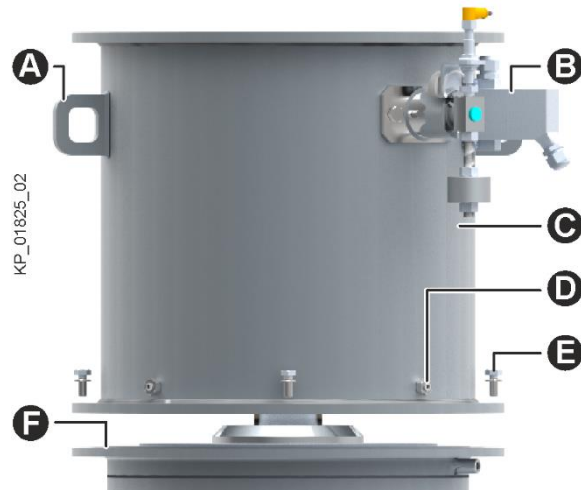

Fig. 17: Overview of the upper part
- Suspend the lifting gear into the bows (Fig. 17/A) of the upper part (Fig. 17/B).
- Pay attention to the correct position of the seal (Fig. 17/F) between the centre part and the upper part of the machine.
- Put on the upper part (Fig. 17/C).
- Check the screws of the outer die ring (Fig. 17/D):
- Tighten all fastening screws (Fig. 17/E).